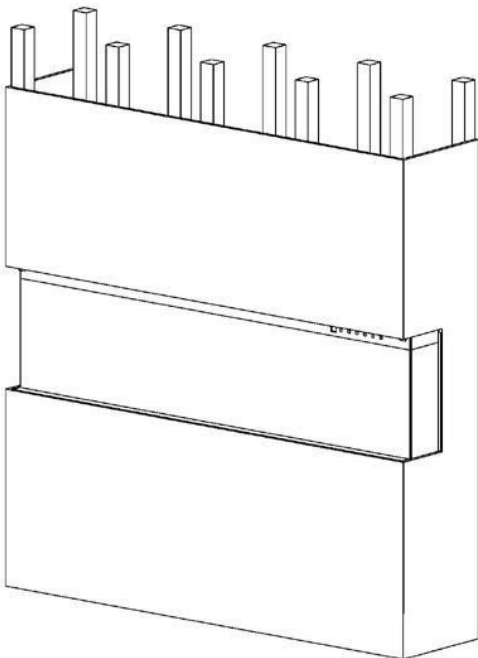

Fig.3-4
7. Cover the glass panel with protective plastic bag and install plywood or drywall. Fig.3-4